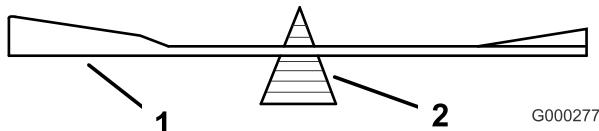
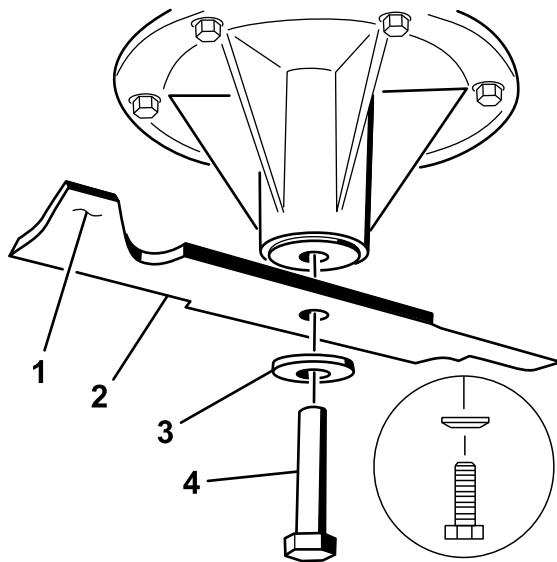

Figure 96
Figure 97
1. Install the blade onto the spindle shaft (Figure 97).
2. Install the spring disk and blade bolt. The spring disk cone must be installed toward the bolt head (Figure 97). Torque the blade bolt to 115-150 N·m (85-110 ft-lb).
2. Check the balance of the blade by putting it on a blade balancer (Figure 96). If the blade stays in a horizontal position, the blade is balanced and can be used. If the blade is not balanced, file some metal off the end of the sail area only (Figure 97).